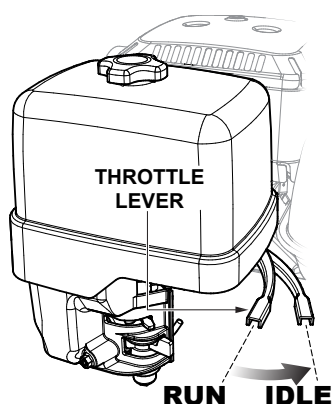

Figure 12. Throttle Lever (Idle Position)
2. Move the throttle lever (Figure 12) to the *idle* position.